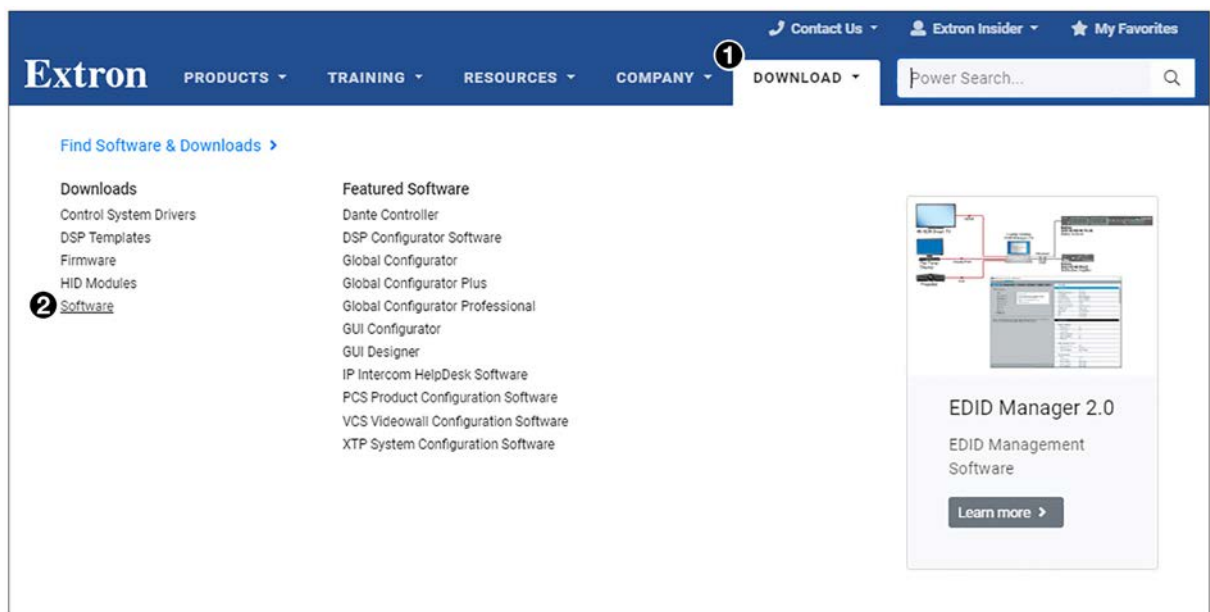

Figure 34. Download Center Page on the Extron Website
1. On the Extron website, select the **Download** tab (see figure 34, **1**).
- Click the **Software** link in the Downloads column (see figure 34, 2 on the previous page).